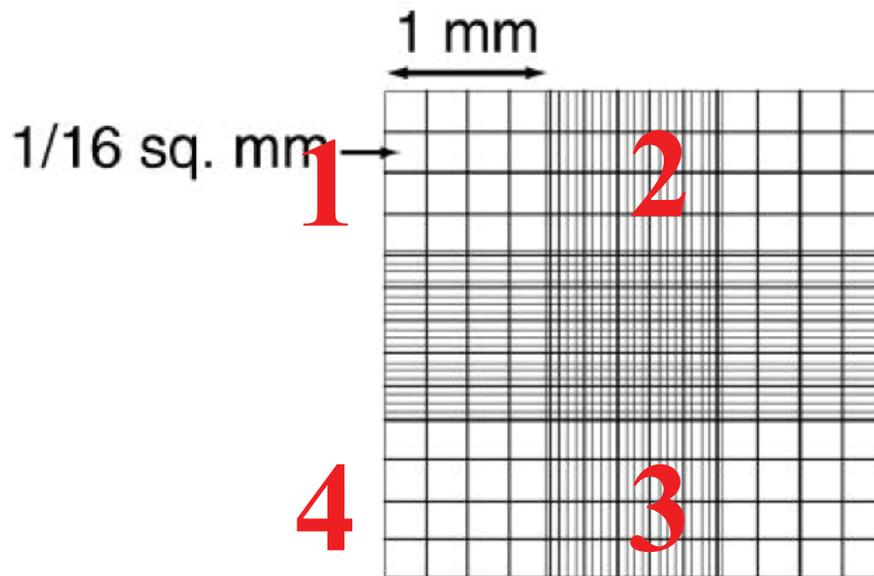

Figure 2: Diagram of hemacytometer quadrants
9.2. Figure 2: Diagram of hemacytometer quadrants